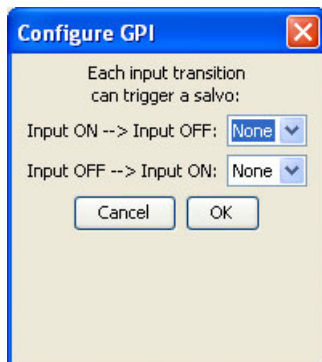

Figure 11-36. Configure GPI Dialog Box
- 10 In the 'Panel I/O Layout' section, click on a button in the 'GPIs - General Purpose Input' section to select it. The 'Configure GPI' dialog box appears, as shown in Figure 11-36.